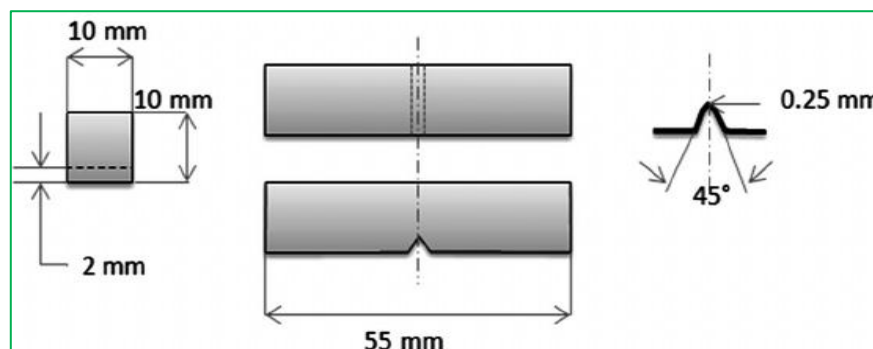

fig.7.1: Charpy Impact Test Specimen Dimensions
7. By joining the two broken halves of the specimen together, measure the final length and diameter of specimen as shown in fig.7.1. (All dimensions are in mm).